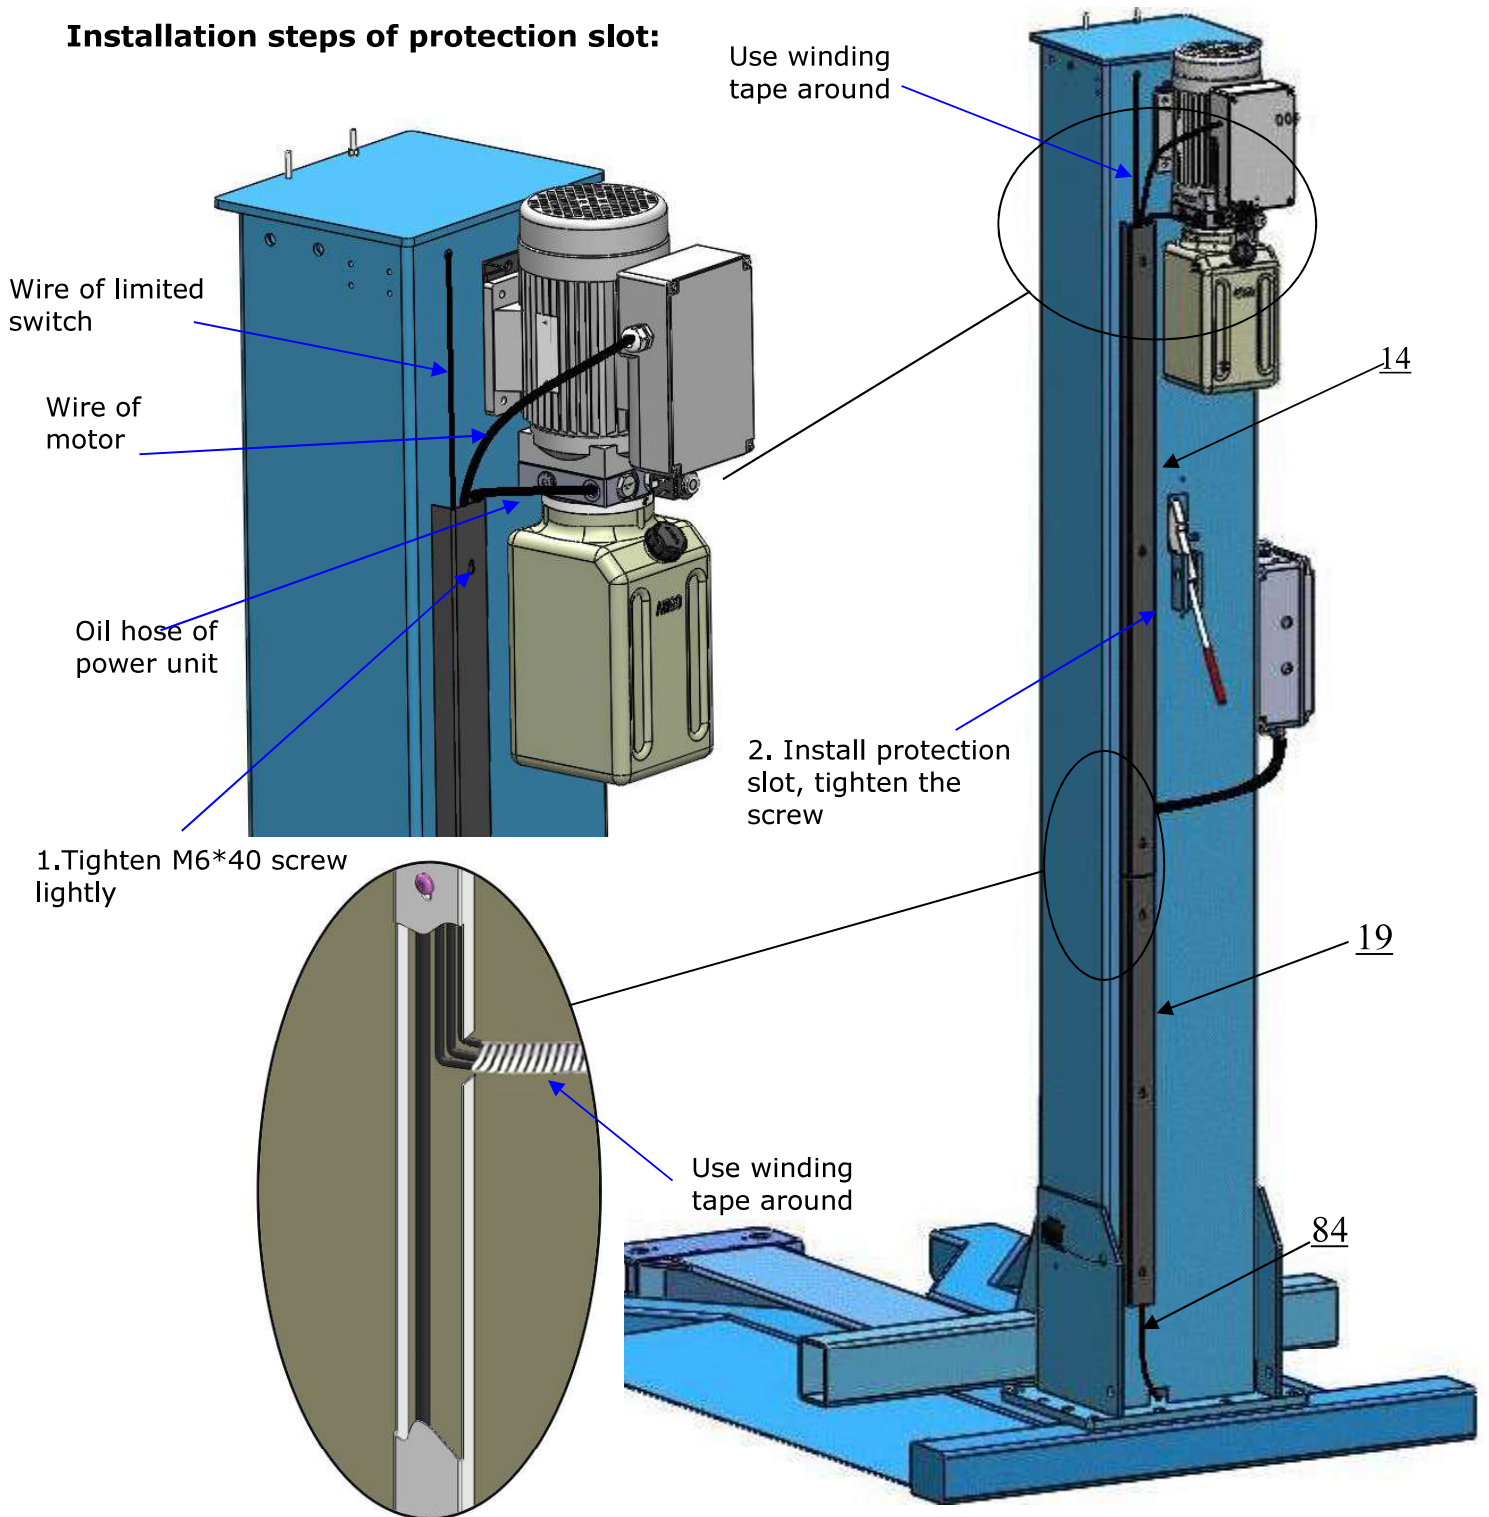

Fig.21
I. Install protection slot and safety device cover (see Fig.21)